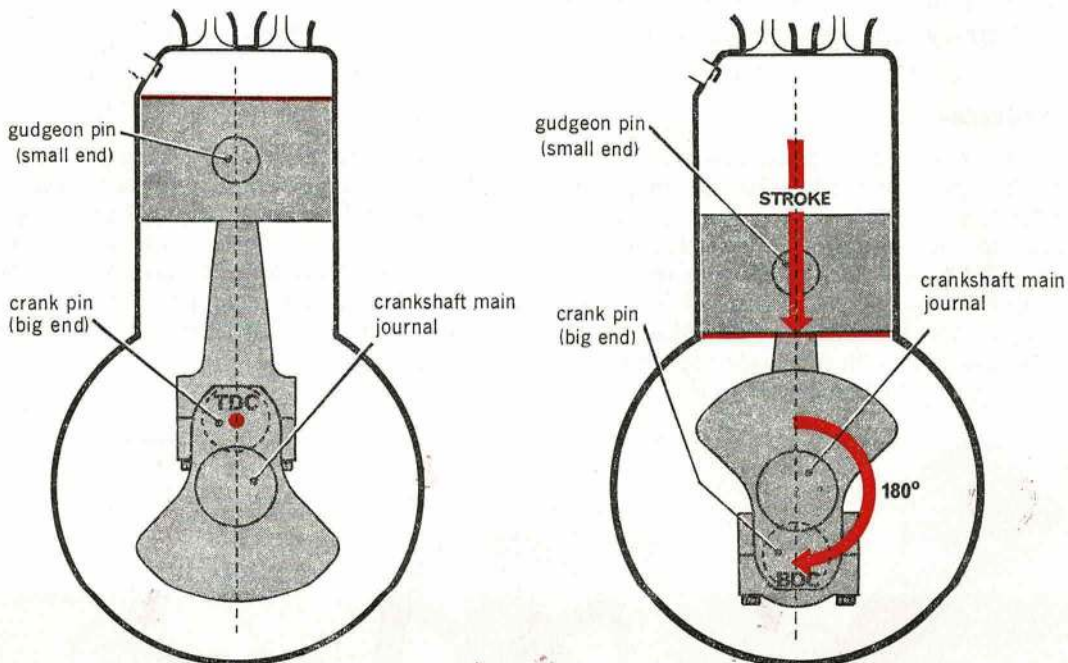

Fig 1.1.2 Top dead centre and bottom dead centre
4. The sequence of operations is referred to as the four stroke cycle. The strokes are the number of piston movements up and down the cylinder which are required to complete a *cycle* of operations. Two upwards and two downwards movements contribute a four stroke cycle. A stroke is defined as the extent of the piston travel within the cylinder; the low limit of travel is known as 'Bottom Dead Centre' (BDC), and the high limit as 'Top Dead Centre' (TDC). For each stroke, the crankshaft turns 180° , *ie* one half of a crankshaft revolution. An illustration of TDC and BDC is shown at Fig 1.1.2.